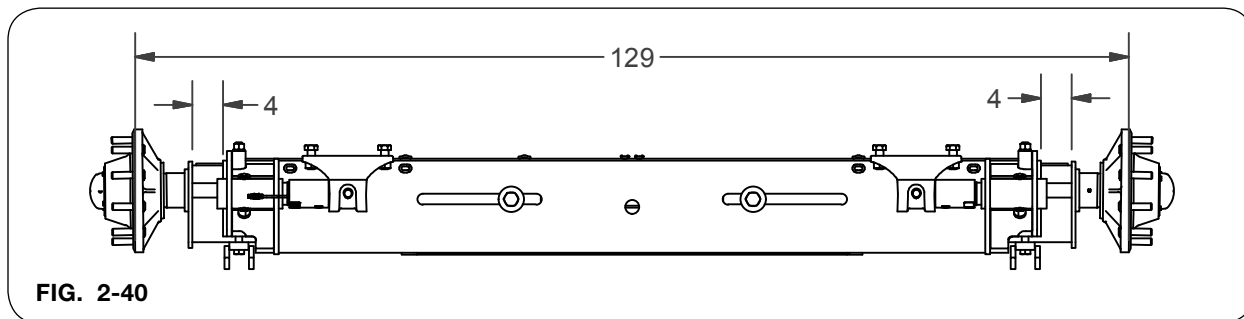

FIG. 2-40
- Slide extensions to desired tire gauge spacing. Axle extensions should be extended equally. Refer to chart below and FIG. 2-40.